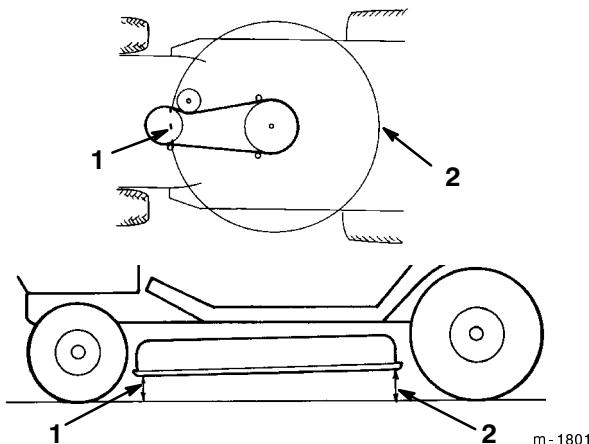

Figure 46
5. Check the front-to-rear blade slope by measuring between the bottom of the mower (front center and rear center) and the flat surface (Fig. 46). If the front of the mower is more than 5/8" (16 mm) lower than the rear of the mower, an adjustment is required; refer to steps 6-10.